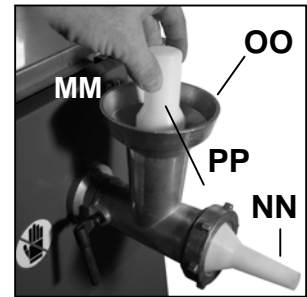

Figure 20
Attach the Meat Grinder to the machine (MM). Slide the sausage casing over the exposed Tube Connector (NN). The sausage casing is now ready to be filled with the meat of your choice. (Figure 20)
As shown in Figure 20, fill the Meat Grinder Intake (OO) with meat. Using the supplied plastic Push Rod (PP), slowly press the meat into the intake. Feeding the meat into the intake will result in the meat being pumped out of the intake and into the tube connector, filling the sausage casing. Keep pressing until the sausage casing is full.